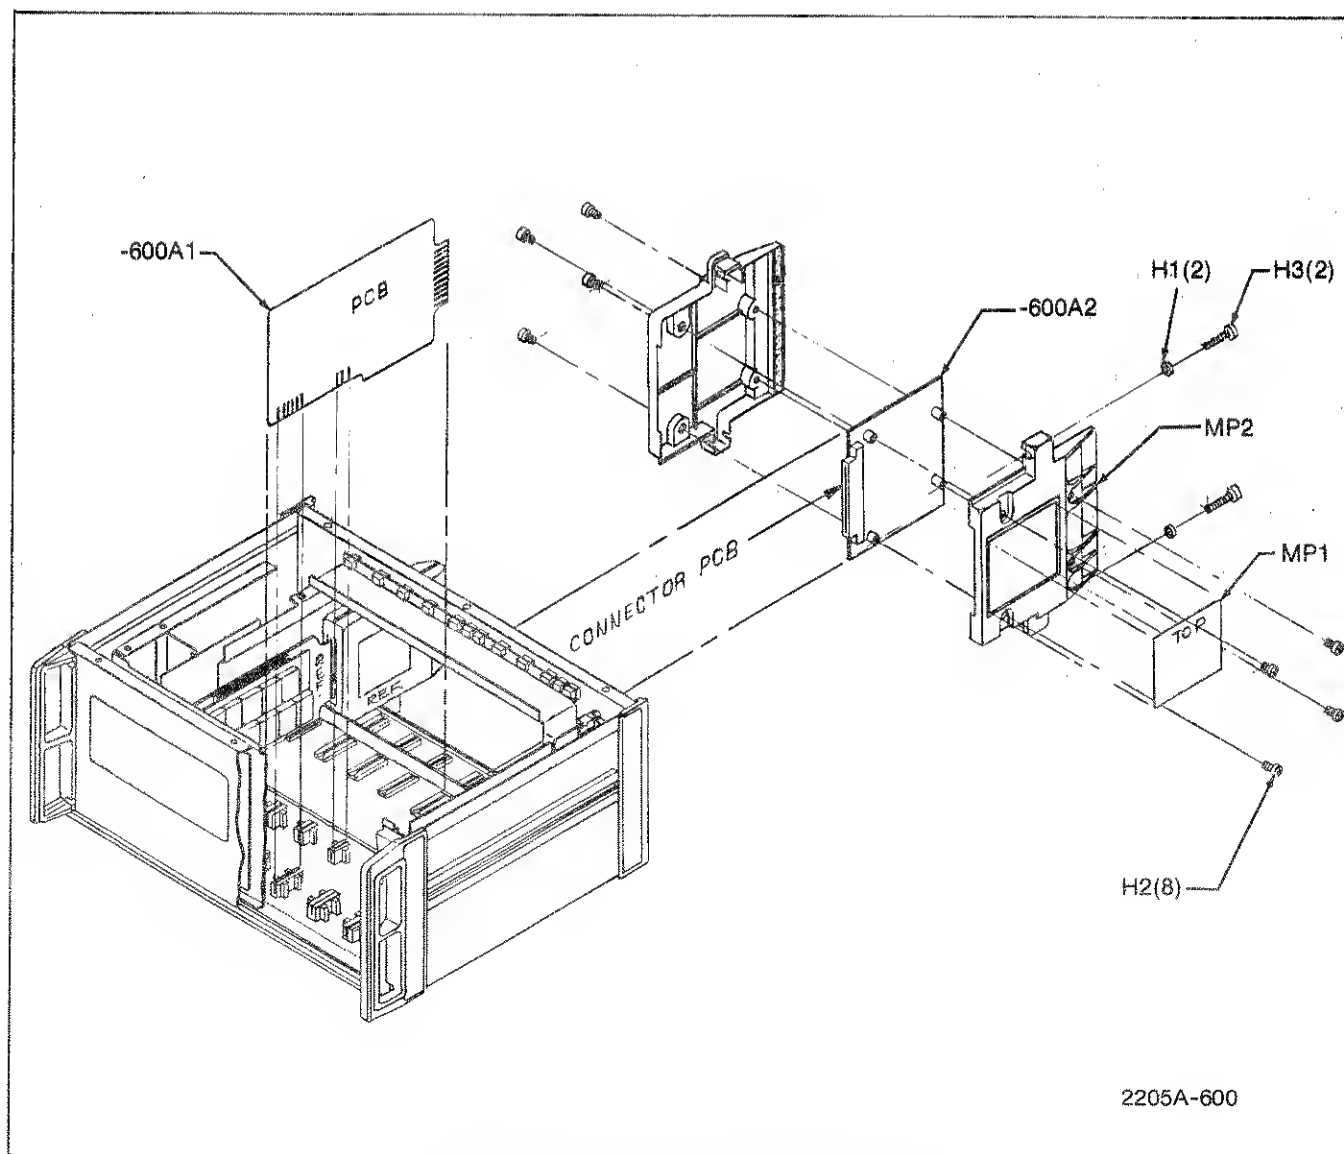

Figure 600-4. Thermocouple Scanner Module
| -600② | THERMOCOUPLE SCANNING MODULE (SEE FIGURE 600-4) | ORDER | BY | OPTION -600 | | | |